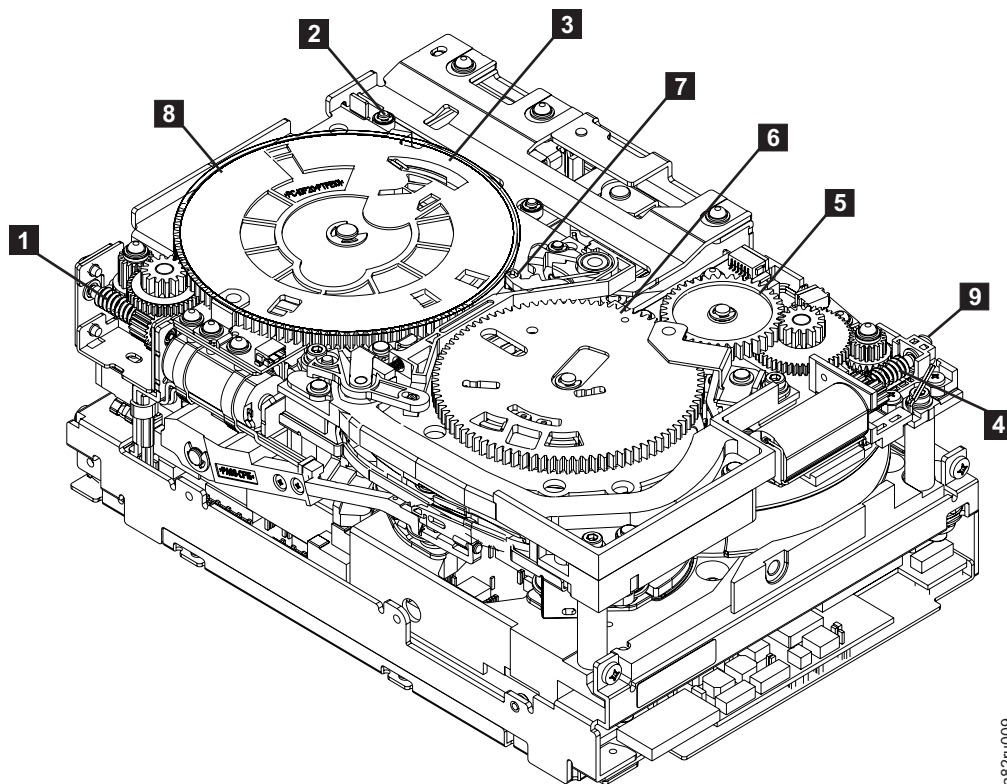
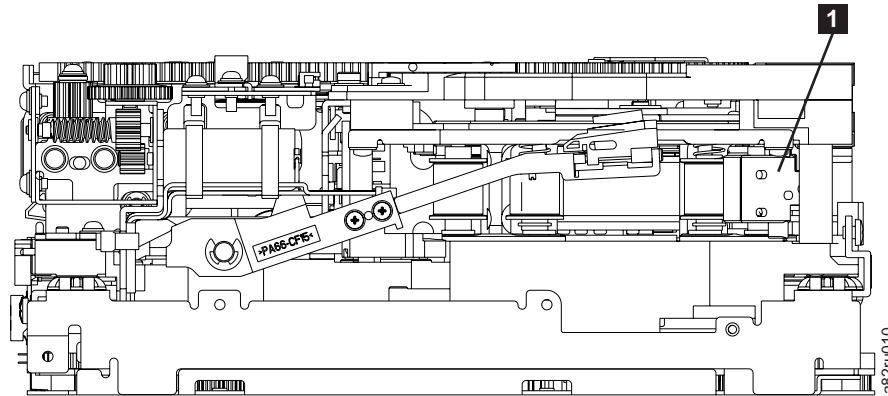

Figure 8-131. Drive with cover removed to reveal gear train.
Figure 8-132. Leader Block Assembly (LBA)
5. Locate the threader motor worm gear (**4** in Figure 8-131 on page 8-124) on the rear of the drive. You can either:
- a. Use your finger to rotate the threader motor worm gear and slowly rotate the threader mechanism gear (**6** in Figure 8-131 on page 8-124) clockwise;
- b. Use a #1 flathead screwdriver to turn the threader worm gear (**9** in Figure 8-131 on page 8-124) clockwise.
This rotates the threader motor worm gear (**4** in Figure 8-131 on page 8-124) clockwise, drawing the LBA into the cartridge.
6. As the tape leader block assembly (LBA) is secured in the cartridge, you should hear the LBA retention spring clips click into place. If you do not hear the click, continue rolling until the threader motor worm gear (**4** in Figure 8-131) stops. The LBA is in the correct position.
- a. Loader mechanism gear (**6** in Figure 8-131) nearest the front of the drive that actuates the cartridge loader mechanism.
- b. Position of the rotate stub (**3** in Figure 8-131).
- c. Front loader motor worm gear (**1** in Figure 8-131). Rotating this gear allows the loader mechanism gear (**8** in Figure 8-131) to turn.
8. Rotate the loader motor worm gear (**1** in Figure 8-131) to turn the threader mechanism gear (**6** in Figure 8-131) counterclockwise. Continue turning until the rotator stub (**3** in Figure 8-131) loses contact with the lever (**7** in Figure 8-131). This releases the LBA leader pin.
9. Rotate the threader motor worm gear (**4** in Figure 8-131 on page 8-124) to turn the threader mechanism gear (**6** in Figure 8-131 on page 8-124) counterclockwise. This moves the LBA out of the cartridge and past the read/write head. Stop this rotation when the LBA is near the tape guide roller nearest the rear of the drive shown as **1** Figure 8-132.
10. Continue rotating the loader motor worm gear (**1** in Figure 8-131 on page 8-124) until the rotator stub (**3** in Figure 8-131 on page 8-124) is positioned as shown. Notice that the rotator stub (**3** in Figure 8-131 on page 8-124) is nearly aligned with the cartridge loader tray guide bearing (**2** in Figure 8-131 on page 8-124).